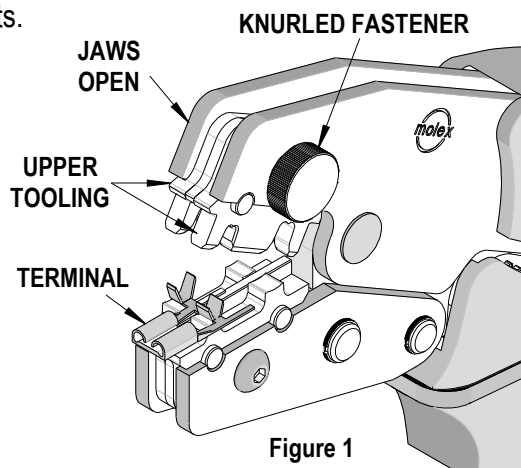

Figure 1
2. Before attempting to crimp any terminals, make sure all the upper tooling is correctly placed into the upper jaw. The desired nest being used for the proper wire size should be in the forward position, (The marking on the upper tooling “A” for 1.0mm2 or “B” for 18 AWG and 0.8mm2). This is done by removing the knurled fastener that holds the upper tooling in place and then rotating it 180° to the correct position. Then, re-installing the fastener. See Figure 1.